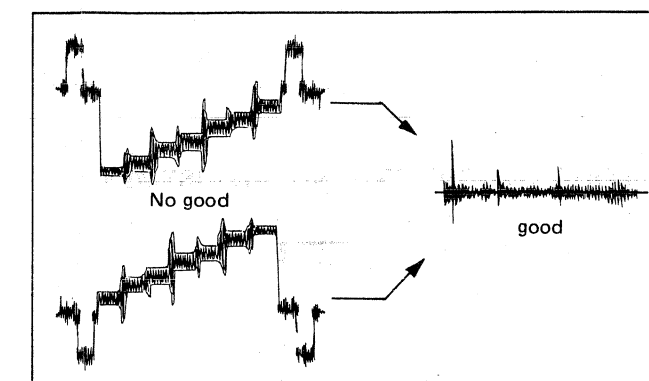

Fig. 3
4. Adjust R326 (Aperture Balance) so that the waveform **TPB8** becomes as shown in Fig. 3.